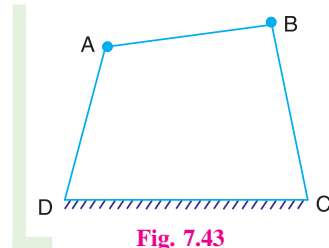

Fig. 7.43
5. In a four bar mechanism, as shown in Fig. 7.43, if a force F_A is acting at point A in the direction of its velocity v_A and a force F_B is transmitted to the joint B in the direction of its velocity v_B , then the ideal mechanical advantage is equal to